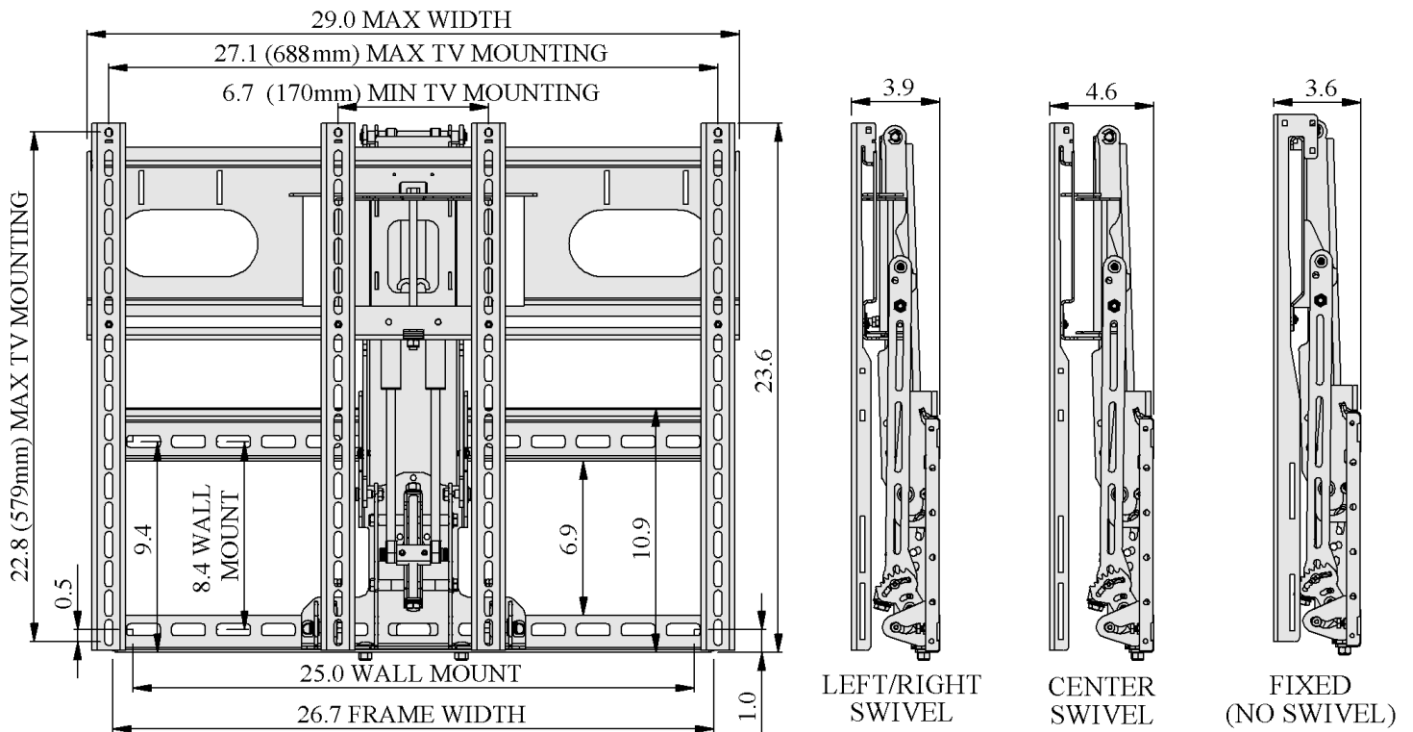
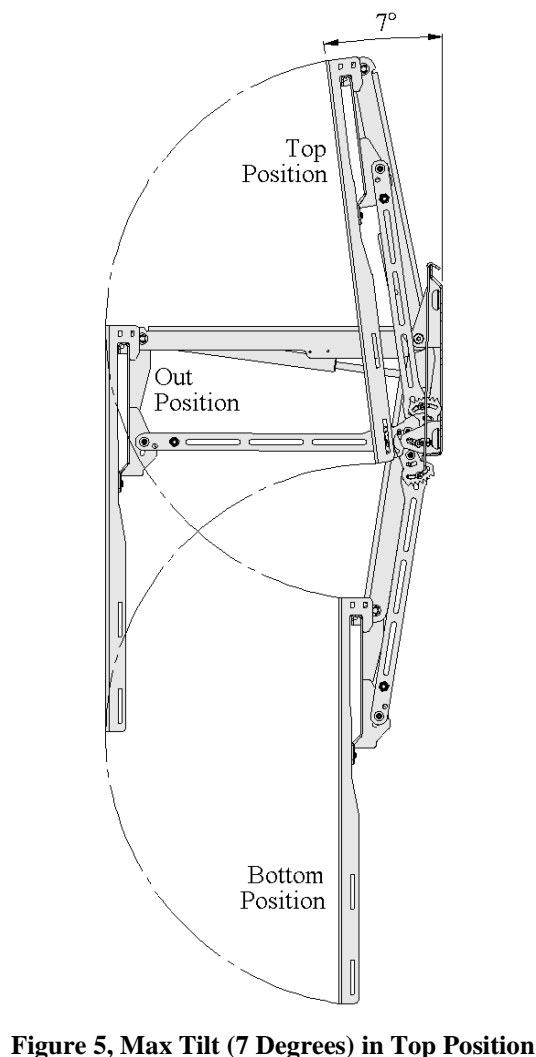

Figure 1, Mount Overall Size With Frame, Television Mounting Hole Pattern Range, Wall Mounting Hole Pattern Range
Figure 5, Max Tilt (7 Degrees) in Top Position
- **Note for smaller televisions;** the mount may be wider or taller than the television. If this is the case then the mount may be visible in the top position. See Figure 1
- Allowable television mounting pattern: 6.7in (170mm) to 27.1in (688mm) wide, up to 22.8in (579mm) high. Works with all VESA patterns in that range, See Figure 1 with Frame, Figure 3 without Frame.
- Product Dimensions: 29.0 x 23.6 x 3.6 to 4.6 inches. See Figure 1 with Frame, Figure 3 without Frame.
- Figure 1 is the overview with the Frame
Before attaching the Swiveling Hook Plate you need to decide which swivel setting is best for you. There are 3 different swivel settings which are shown in Figure 5, Max Tilt (7 Degrees) in Top Position. Each setting has its own advantages. The Center Swivel gives you a lot of travel in each direction but has the thickest profile (See Figure 1 for Profile Thicknesses). The Left and Right Swivels are the lowest profile and can swing the farthest either to the right or the left, but not both.
5. Figure 1 and Figure 3 show important dimensions of the mount.